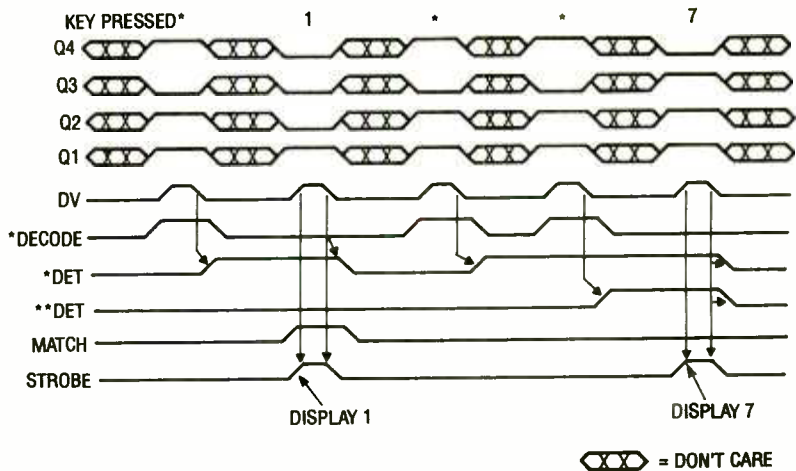

Fig. 2. This timing diagram in Fig. 2 shows the sequence that occur when a valid DTMF signal is detected.
The BCD outputs of U3 are fed along three paths. In the first path, U3's outputs are fed to a pair of AND gates (Q1 and Q2 to U2-a and Q3 and Q4 to U2-c) whose outputs are then AND'ed together via U2-b, the output of which is fed to the D-inputs of flip-flops U6-a and U6-b, which are both clocked by the negative edge of the inverted Data Valid (DV) signal (pin 15 of U3). Flip-flop (U6-a) simply remembers if the previous keystroke was an asterisk. The timing diagram in Fig. 2 shows that in more detail. Flip-flop U6-b is used to detect the occurrence of a two-asterisk keystroke. That flip-flop is held reset (by feeding the output of U6-a to U6-b's clear input at pin 13) until a second asterisk keystroke is detected; once a second asterisk is detected, the flip-flop is set and remains set until a non-asterisk key is depressed. The output of U6-b is then fed to pin 5 of U4-b.